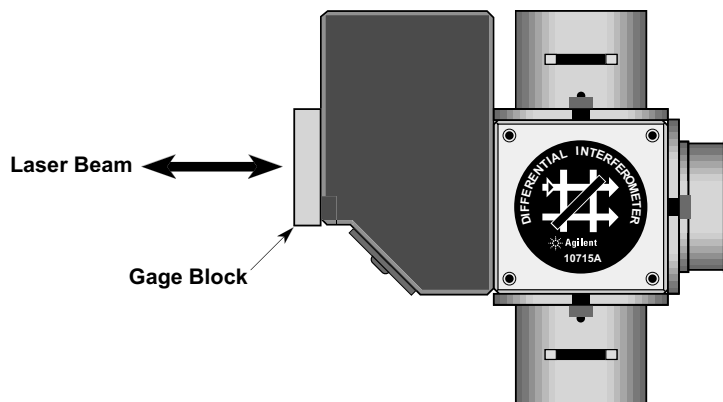

Figure 7G-8. Agilent 10715A with gage block in position
- 4** Place a rectangular gage block over the input aperture so that it reflects the laser beam back toward the laser. (See Figure 7G-8.)
- 6** Once the autoreflection alignment of the interferometer is complete, remove the gage block and select the large aperture on the laser head. Two parallel unclipped beams should now leave the interferometer. (See Figure 7G-9.)